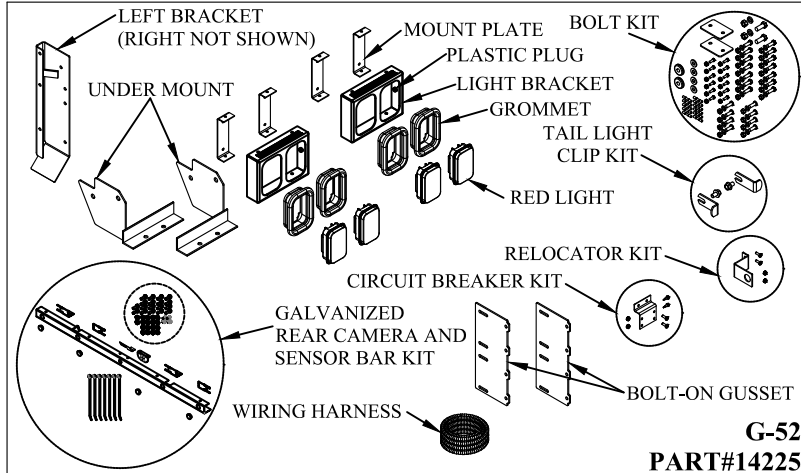

Figure 1: Part Identification.
2. Verify mounting bracket kit (Figure 1 and Table 1).